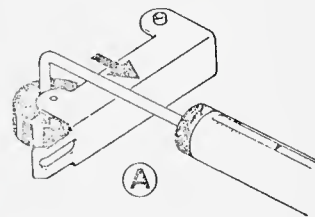

Fig. 8
$300-350$  p (Fig. 8)
- 3.2 Pinch Roller Pressure  $300-350$  p (Fig. 8)